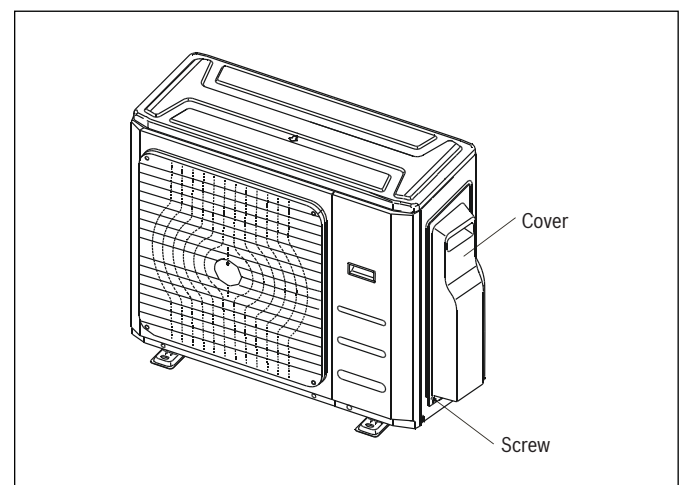

Figure 19
- 2. Remove the electric cover of the outdoor unit. If there is no cover on the outdoor unit, disassemble the bolts from the maintenance board and remove the protection board. (See Fig. 19)